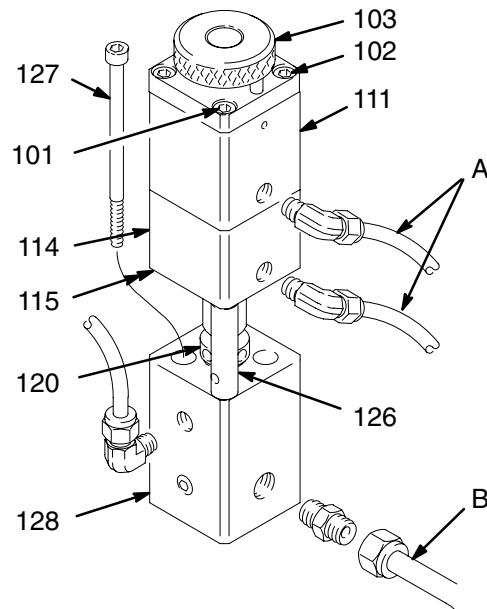
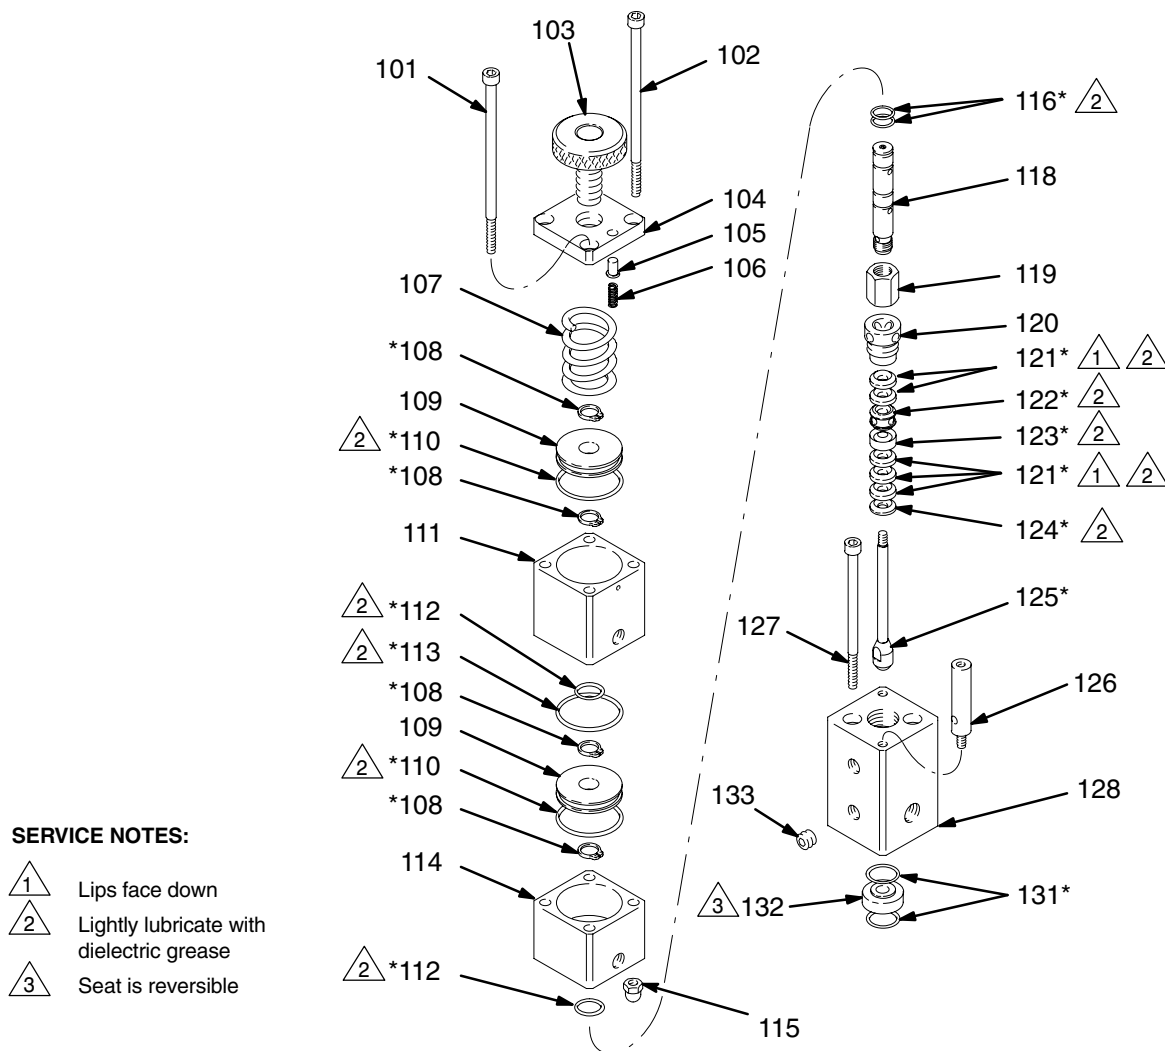

Fig. 10
Fig. 11
(See Fig. 10)
1. Disconnect the fluid line (B) from the fluid housing (128).
2. Disconnect the two air lines (A).
3. Loosen the two cap screws (127) until the dispense valve is free from the mix manifold.
4. Carefully remove the dispense valve. The valve seat (132) and bottom o-ring (131) may fall away. See Fig. 11.
(See Fig. 10 and Fig. 11)
NOTE: Repair Kit 15E013 is available to repair the dispense valves. Order one kit for each valve. The repair parts in the kit are marked with an asterisk (*) in Fig. 11.